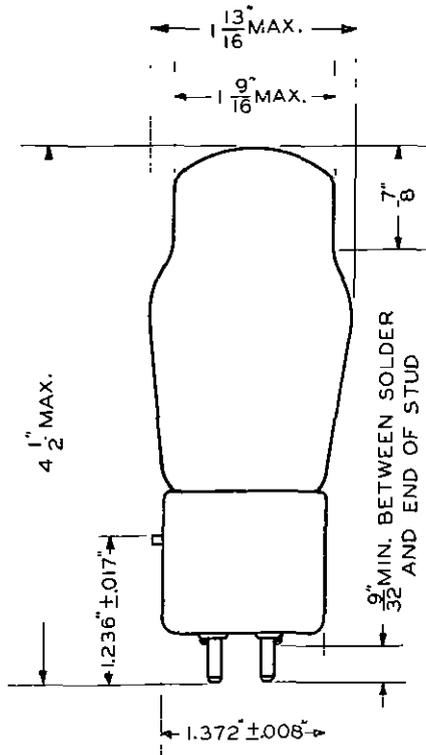

FIG. 1
**Dimensions and Connections—**The outline diagrams of the tube and base, giving the dimensions and the arrangement of the electrode connections to the base terminals are shown in Figures 1 and 2.